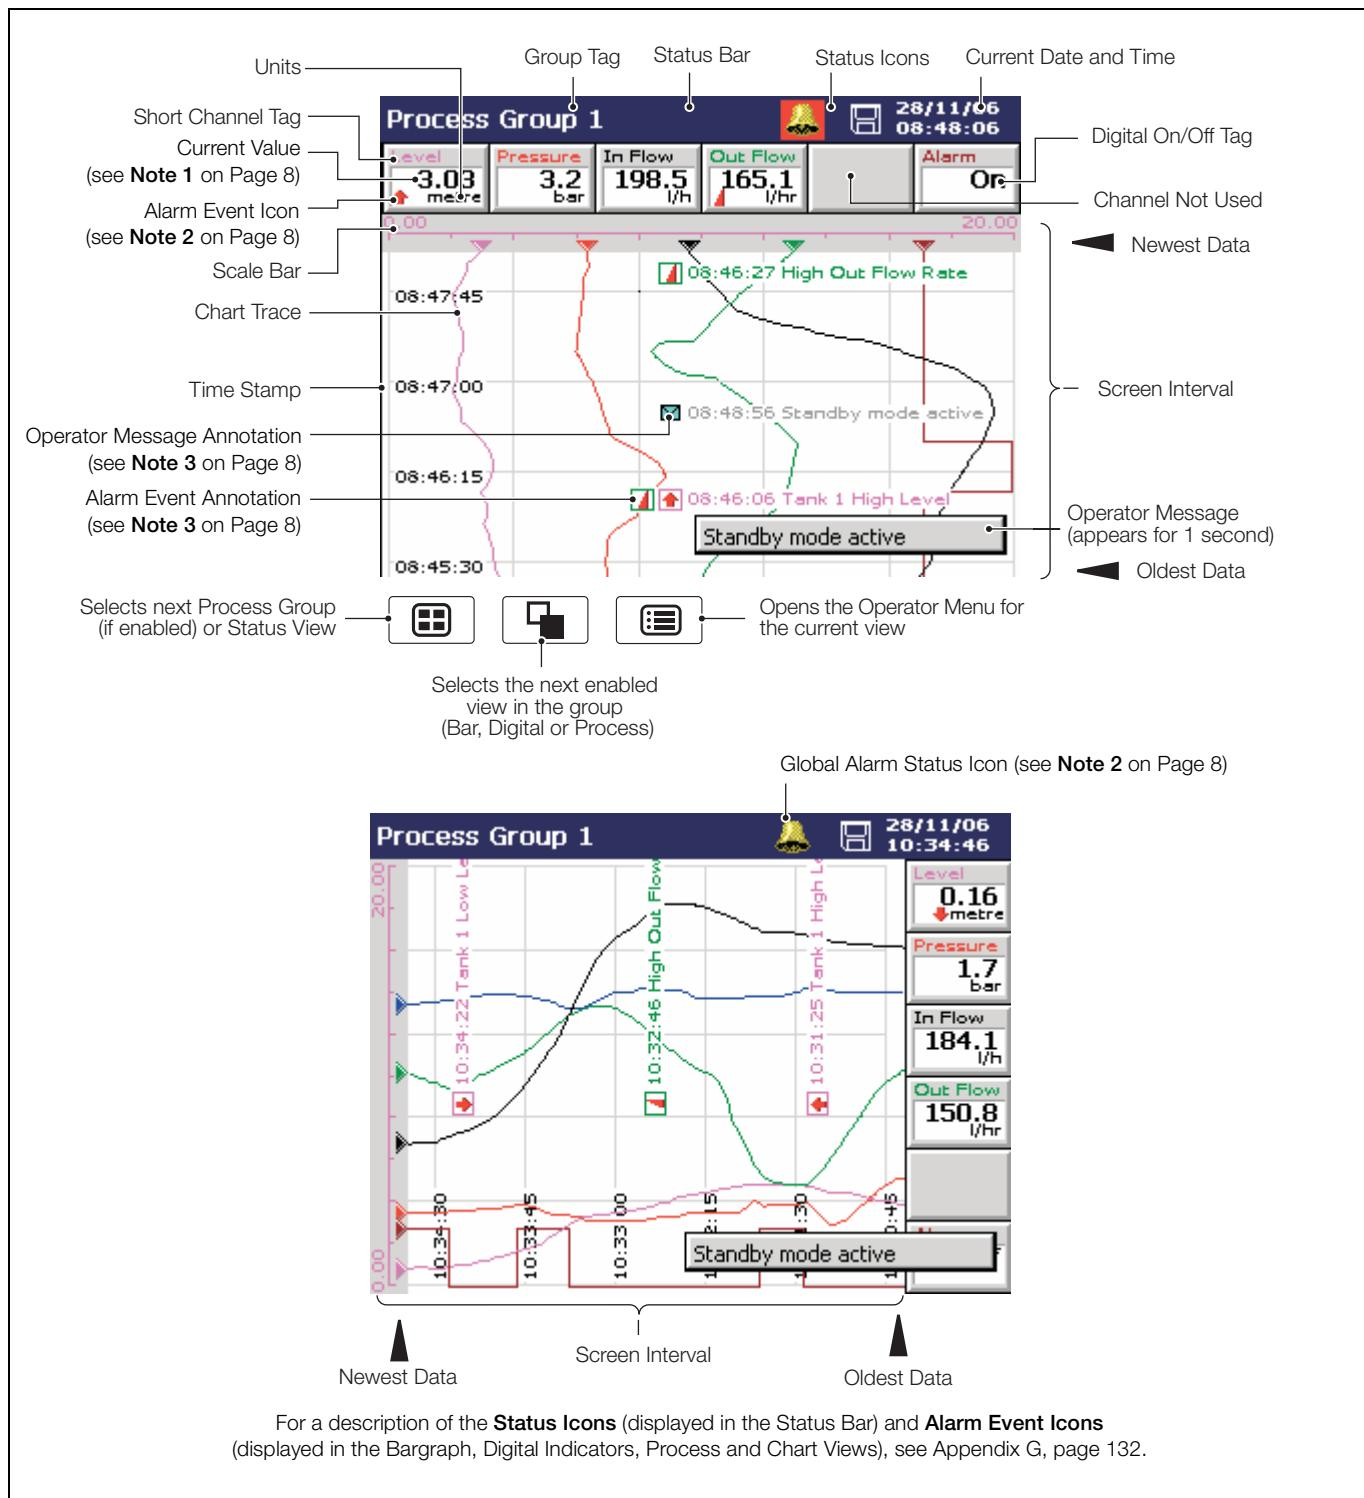

Fig. 2.3 Horizontal and Vertical Chart Views
2.3 Chart Views – Fig. 2.3
If **any** alarm in **any** process group is active, the Global Alarm status icon (⚠) is displayed in the status bar – see Fig. 2.3. If **any** active alarm in **any** process group is unacknowledged, the icon is surrounded by a red flashing border (⚠).
Note. Active unacknowledged alarms in the current process group are identified by a flashing red Alarm Event icon in the bottom left hand corner of the associated channel indicator. Active acknowledged alarms are identified by a continuous red Alarm Event icon in the bottom left hand corner of the indicator – see Fig. 2.3, page 7.